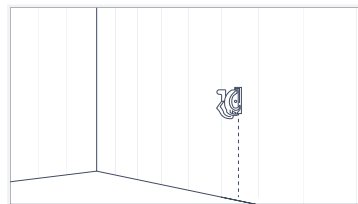

Fig. 30
2. Using the saw, cut through the center of the damaged panel, parallel to the panel joints (Fig. 30).